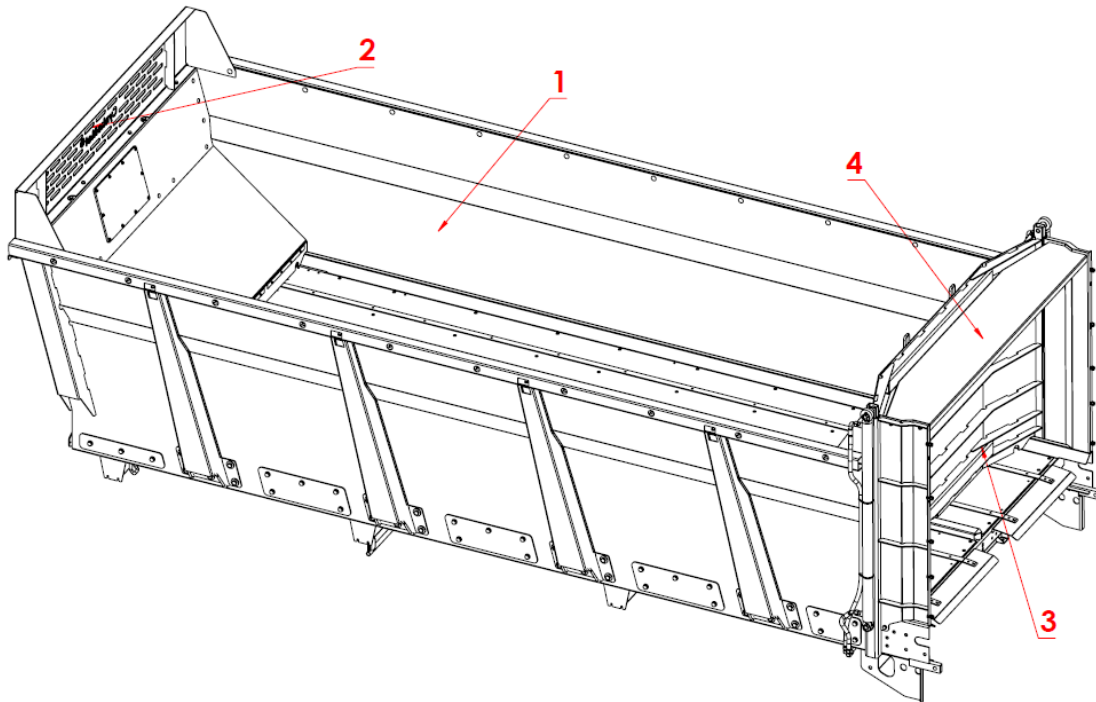

Figure 4.5. Spreader box
Walls with a height of 1.15m are screwed to the frame (fig. 4.5, item 1). The cargo box is terminated by the hydraulic wall (lock, item 3), moving along guides situated in the side walls. One end of the lock is equipped with thick